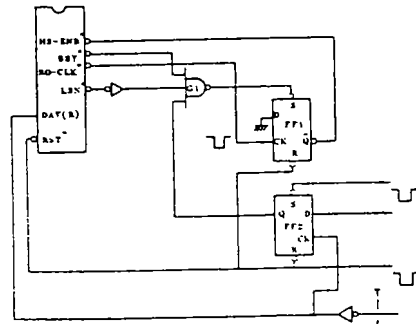

Figure 9 Listener circuit example
• Figure 9 shows a data reception circuit, and Figure 10 its timing chart.